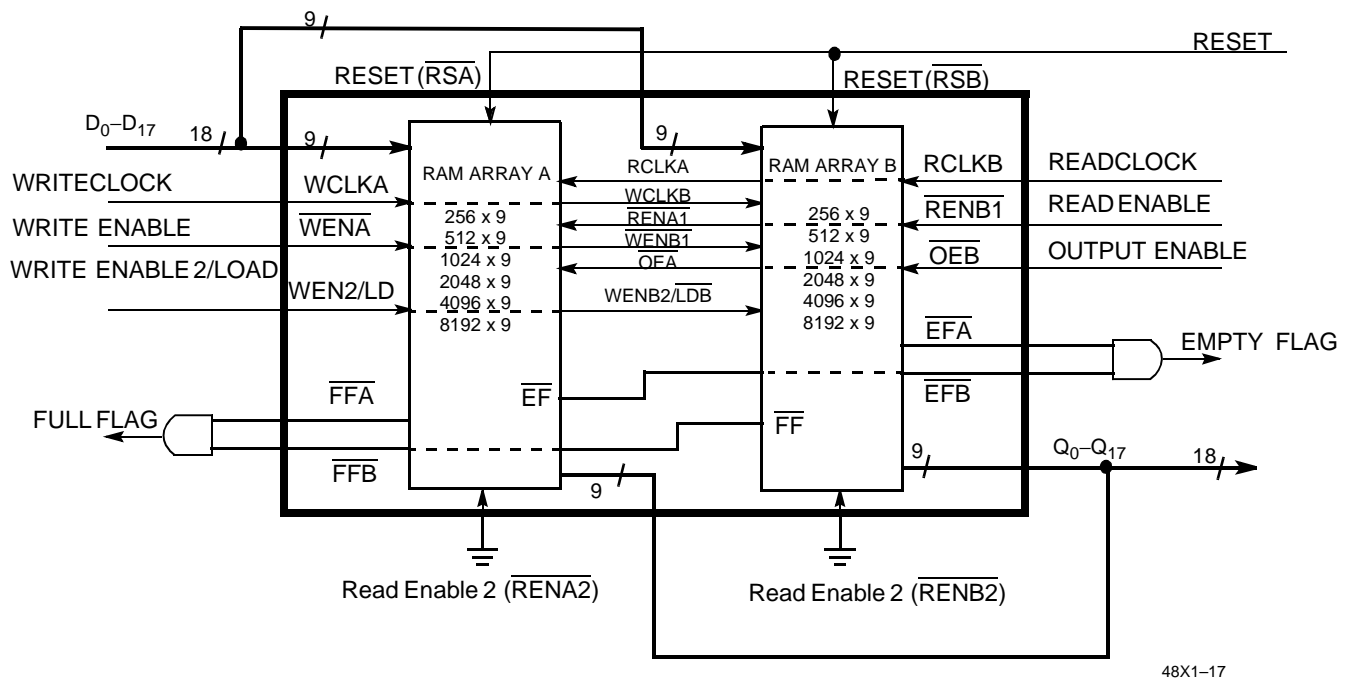

**Figure 2. Block Diagram of 256 x 9,512 x 9,1024 x 9,2048 x 9,4096 x 9,8192 x 9 Double Sync FIFO Used in a Single Device Configuration.**
When FIFO A(B) is in a Single Device Configuration, the Read Enable 2  $\overline{\text{RENA2}}(\overline{\text{RENB2}})$  control input can be grounded (see Figure 2). In this configuration, the Write Enable2/Load